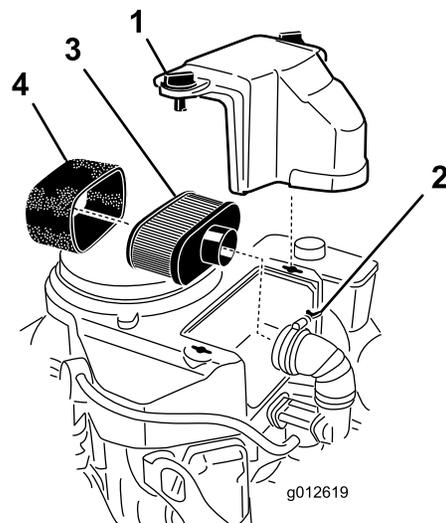

Figure 42
3. Clean around the air cleaner to prevent dirt from getting into the engine and causing damage (Figure 42).
4. Unscrew the cover knobs and remove the air cleaner cover (Figure 42).
5. Unscrew the hose clamp and remove the air cleaner assembly (Figure 42).
6. Carefully pull the foam element off the paper element (Figure 42).
1. Clean the paper element by tapping gently to remove dust. If it is very dirty, replace the paper element with a new one (Figure 42).
1. Carefully slide the foam element onto the paper air cleaner element (Figure 42).
2. Place the air cleaner assembly onto the air cleaner base or hose and secure it (Figure 42).
3. Place the air cleaner cover into position and tighten the cover knob (Figure 42).